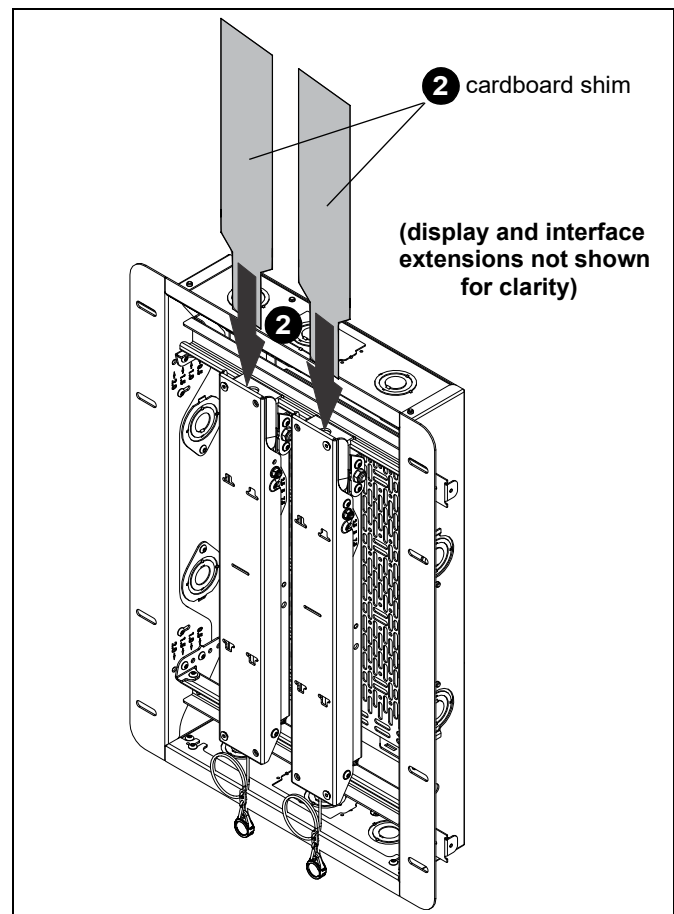

Figure 34
2. Place created shim tool down top of each upright and gently push and pull on display while shimming until it releases. (See Figure 34) and (See Figure)